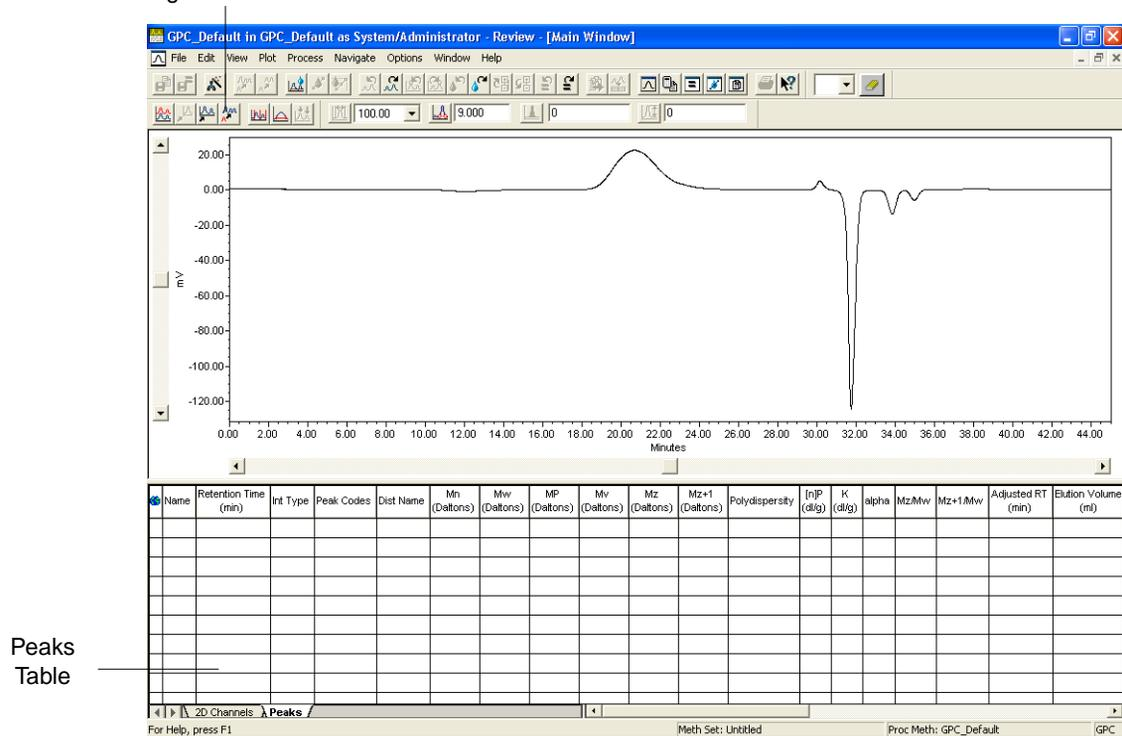
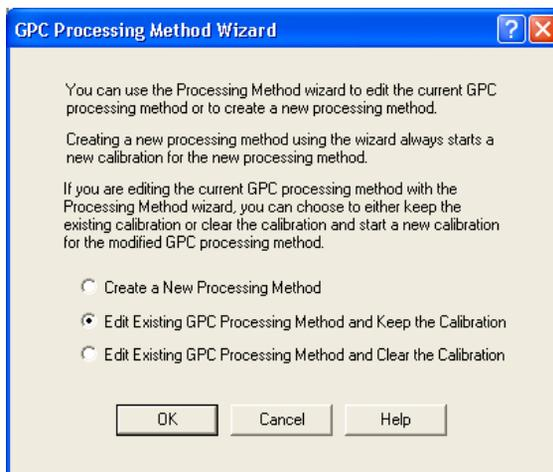

Figure 3-4 Review with GPC Processing Method Open
Figure 3-5 GPC Processing Method Wizard Dialog Box
- Click the **Peaks** tab to display the Peaks table (Figure 3-4).
1. Click **Processing Method Wizard** in the Review Main window (Figure 3-4). The GPC Processing Method Wizard dialog box appears (Figure 3-5).